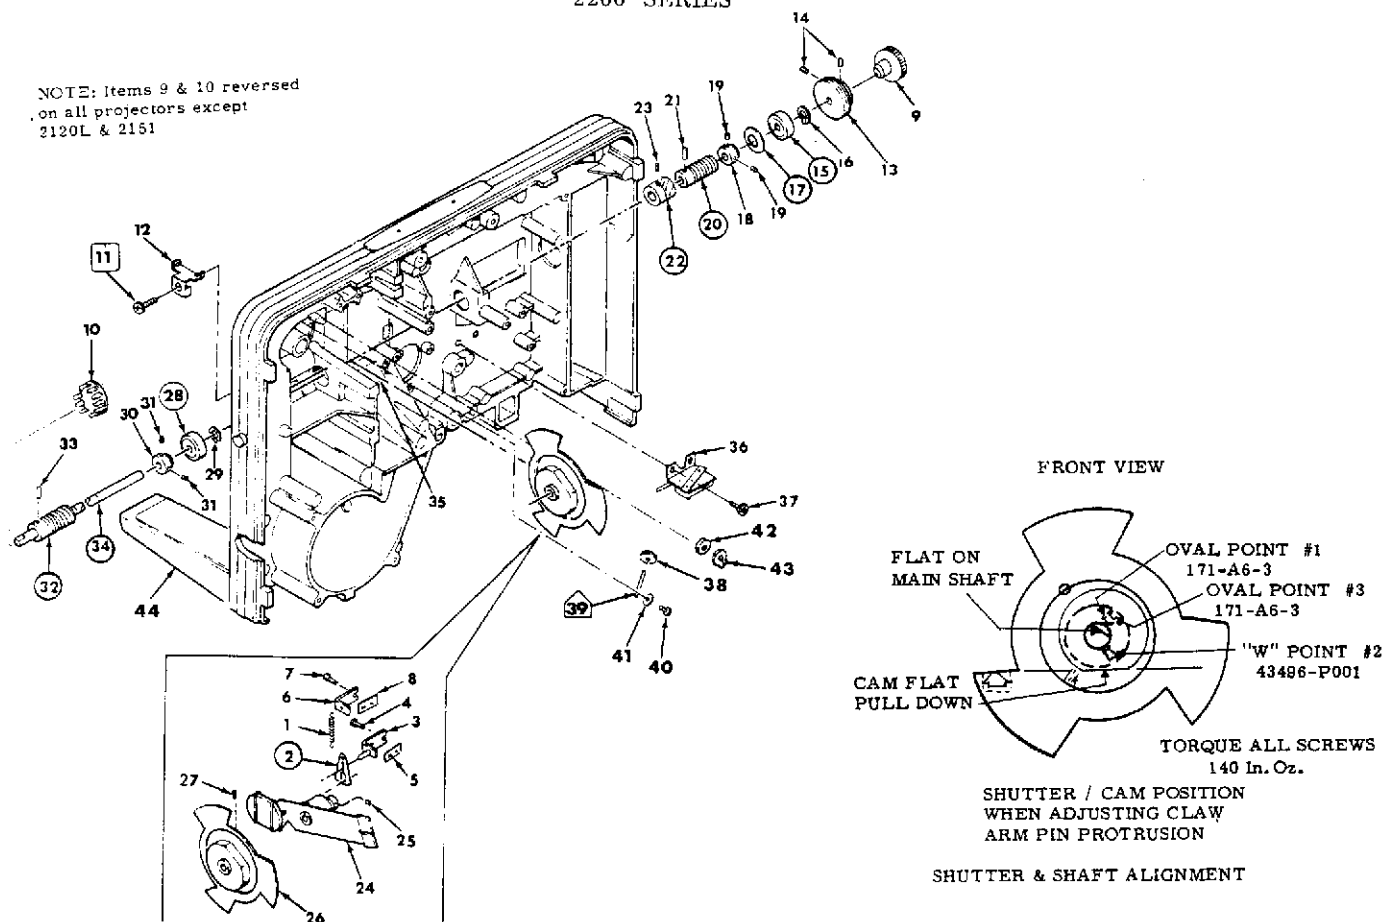

Figure 3-19. REMOVAL AND REASSEMBLY OF MAIN SHAFT
## M. Removal of Main Shaft Ref. Figure 3-19
2. Loosen both Set Screws (14) in the Pulley (13) so the Pulley will rotate freely on the Main Shaft. (Figure 3-19)
3. Loosen both Set Screws (19) in the Collar (18) so the Collar will rotate freely on the Main Shaft (34).
4. Loosen Set Screw (23) in the pinion (22) so the Pinion will rotate freely on the main shaft.
5. Remove the oval point Jam Screw (27) and loosen the remaining two Set Screws in the Shutter and Cam Assembly (26) so the Cam Assembly will rotate freely on the Main Shaft.
6. Loosen both Set Screws (31) in the Collar (30) so the Collar will rotate freely on the Main Shaft.
7. Loosen Set Screw (25) in the Safety Shutter (24) so the collar of the Safety Shutter rotates freely on the Main Shaft. Unhook the Link (2) from the Safety Shutter and allow the Spring (1) to pull the Link against the Pin on the Bracket Assembly (3). (Disregard for projectors having no Safety Shutter.)
9. Rotate the Main Shaft (34) until the flat on the shaft just behind the Front Bearing (28) is at about 2 o'clock (See Shutter and Shaft Alignment insert on Figure 3-19). Rotate the Shutter and Cam Assembly (26) until the Setscrew (#1 in insert) lines up with the flat on the Shaft (34). Gently push the Shutter and Cam Assembly forward while pushing down on the Claw Arm until the cam follower on the Claw Arm slips under the the Cam. Tighten the Setscrew (#1 in insert) on the flat of the Shaft (34). Make sure the Claw Arm is not hitting the Aperture Plate.